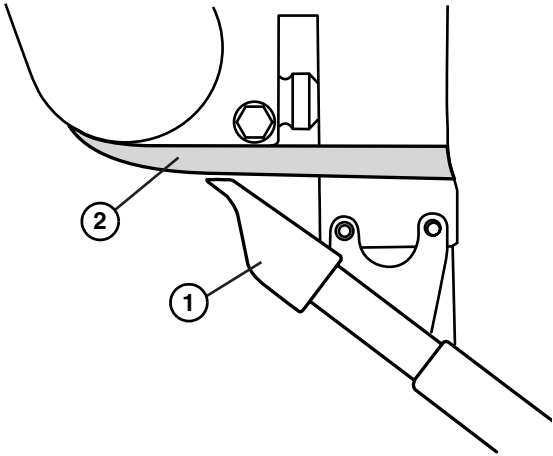

Figure 31
Apply minimal pressure between the scraper (Figure 31, item 1) and the belt (Figure 31, item 2). Positioning the scraper so that it is digging into the belt will increase resistance, cause unnecessary strain on the motor and lead to premature belt failure.